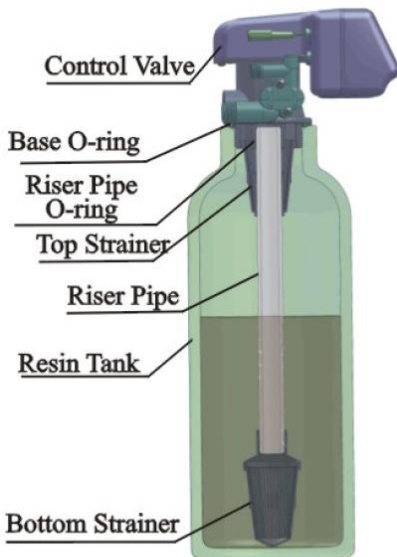

Figure1-1
- ① The filter or softener should be located close to drain.
- ② Ensure the unit is installed in enough space for operating and maintenance.
- ③ Brine tank need to be close to softener.
- ④ The unit should be kept away the heater, and not be exposed outdoor. Sunshine or rain will cause the system damage.
- ⑤ Please avoid to install the system in one Acid/Alkaline, Magnetic or strong vibration circumstance, because above factors will cause the system disorder.
- ⑥ Do not install the filter or softener, drain pipeline in circumstance which temperature may drop below 5℃, or above 50℃.
- ⑦ One place is recommended to install the system which causes the minimum loss in case of water leakage.
① Install control valve
a. As the Figure 1-1 shows, select the riser pipe with 26.7mm OD, glue the riser pipe to the bottom strainer and put it into the mineral tank, cut off the exceeding tube out of tank top opening. Plug the riser tube in case